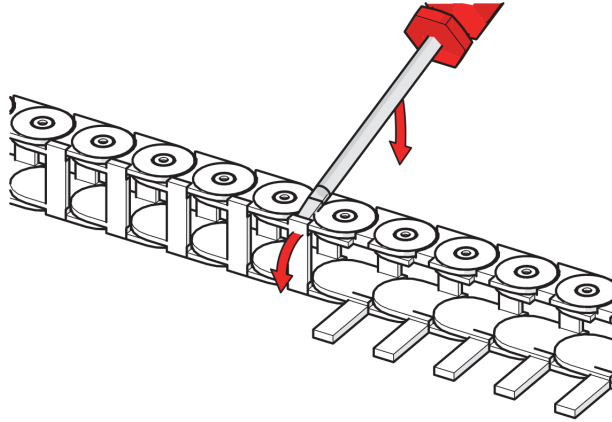

Figure 2-30 Unclip flaps from cable tray
1. Using a small flat screw driver, unclip the flaps of the cable tray (see Figure 2-30 on page 69).